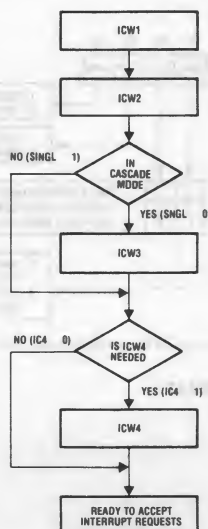

FIGURE 3. 82C59A INITIALIZATION SEQUENCE
The following section gives a description of the Initialization Control Words (ICW) used for configuring the 82C59A Interrupt controller. There are four (4) control words used for initialization of the 82C59A. These ICWs must be programmed in the proper sequence beginning with ICW1. If at any time during the course of operation the configuration of the 82C59A needs to be changed, the user must again write out the control words to the device in their proper order. The initialization sequence is shown in Figure 3.